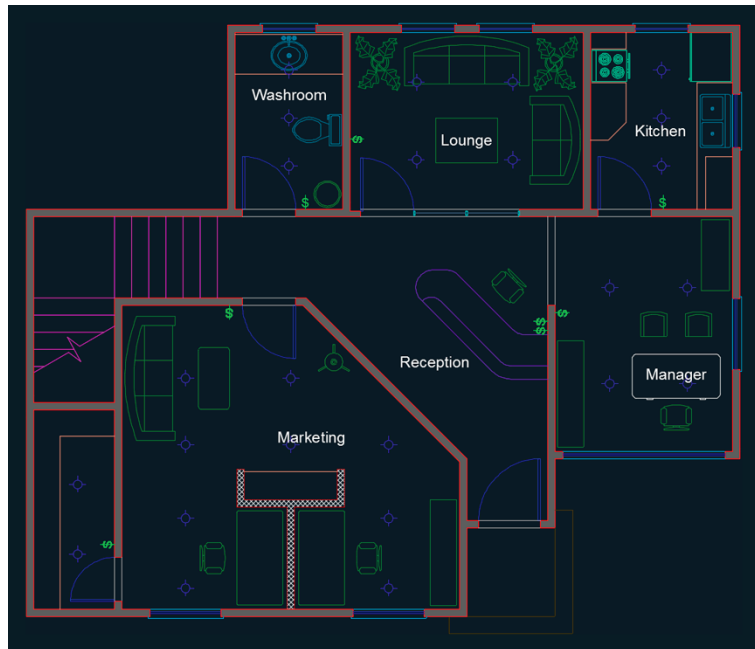

FIGURE 6.12 The floor plan with all layers on
1. Expand the Layers panel, and click the Turn All Layers On tool. You now see the switches (\$ symbols), downlights, and header layers. Figure 6.12 shows the result.